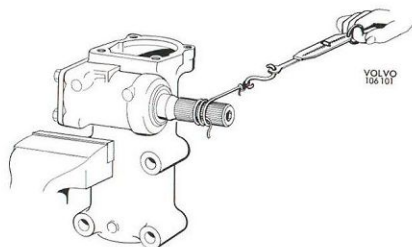
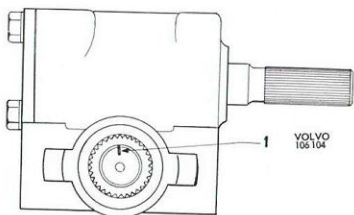
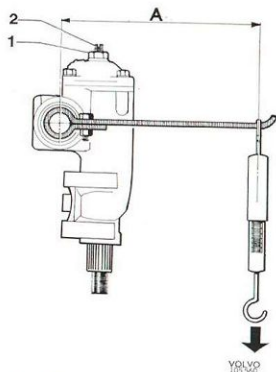

Fig. 6-60. Checking bearing location
Fig. 6-62. Center position
Fig. 6-63. Checking tensioning, cam — roller
2. Place the steering gear in the middle position (Fig. 6-62). Remove the four bolts (1, Fig. 6-41) for the upper cover (6). Pull up the cover and pitman arm shaft a bit and drain the oil. Pull out the cover and pitman arm shaft.
3. Remove the bolts and lower cover (19). Take care of the spacers (22).
4. Carefully knock on the steering worm shaft (10) so that the lower bearing outer races come loose from the housing. Take out the steering worm with bearings.
5. Remove the locknut (3) and screw the adjusting screw (2) out of the cover. The adjusting screw
- hardening sealing agent. Tighten the cover while checking that the guide bolt rotates easily without any play. If properly located the bearings should require a torque of 0.1—0.25 Nm (1—2 lbin) in order to rotate the guide bolt. The torque is measured with a cord and spring balance as shown in Fig. 6-60. The balance should give a reading of 10—25 N (2.2—5.5 lb). If this is not the case, adjust by inserting or removing shims.
7. Locate the steering gear centrally (see Fig. 6-62). Screw in the adjusting screw so far that a noticeable resistance is felt when rotating it forwards and backwards over the centre position. The adjustment of the "pressure point" can be measured in different ways. The measurement, for example, can be done with a cord and balance, see Fig. 6-60, in which case the balance should give a reading of 80—140 N (18—31 lb) when it pulls the guide bolt over the center position. With the swing iron and spring balance position as shown in Fig. 6-63, the balance should give a reading of 4—7 N (9—15 lb). When the gear is properly located, lock the adjusting screw by means of the stop nut. Repeat the test after the stop nut has been tightened securely.